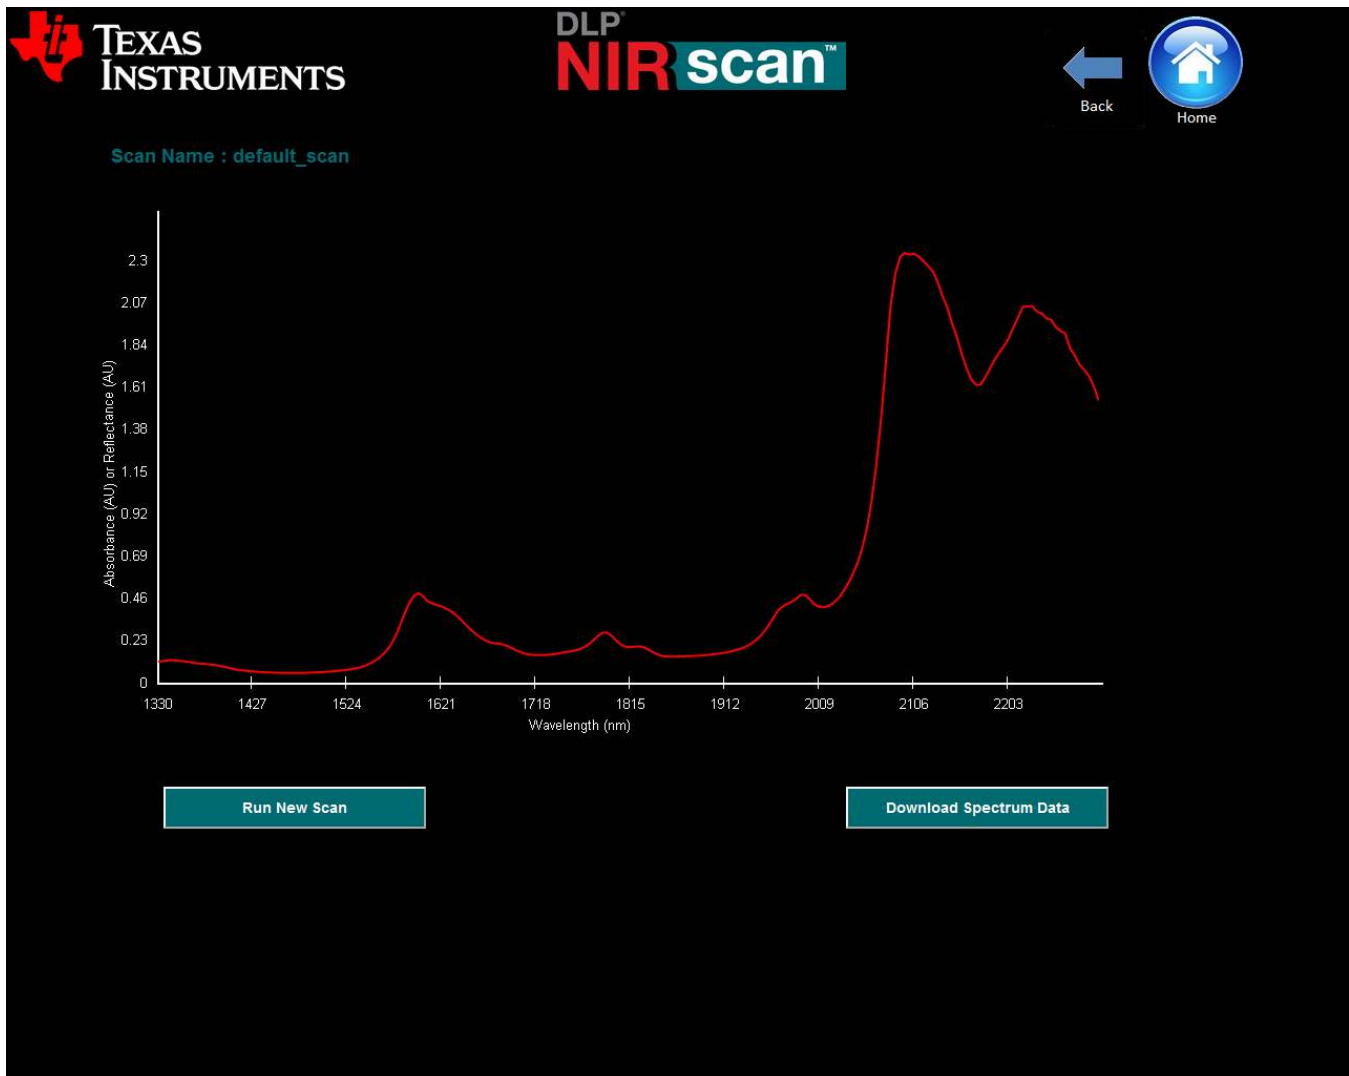

Figure 3-2. Example Quick Scan
4. Click **Perform Scan**. The DLP NIRscan scans the sample, calculates the sample material absorbance, and displays the absorbance in graphical format on the next screen. Figure 3-2 shows an example of this screen.